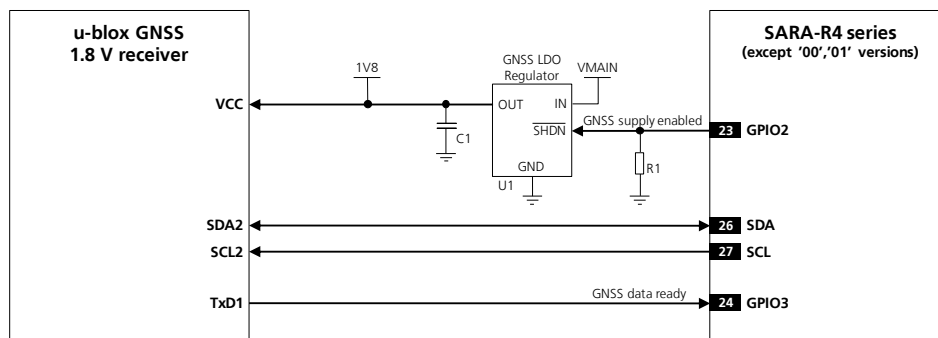

Figure 14: Application circuit for connecting SARA-R4 modules to u-blox 1.8 V GNSS receivers
Figure 14 shows an application circuit for connecting the cellular module to a u-blox 1.8 V GNSS receiver:
- The **V_INT** supply output of SARA-R4 cellular modules is used to supply a u-blox 1.8 V GNSS receiver instead of using an external voltage regulator as shown in previous Figure 14.